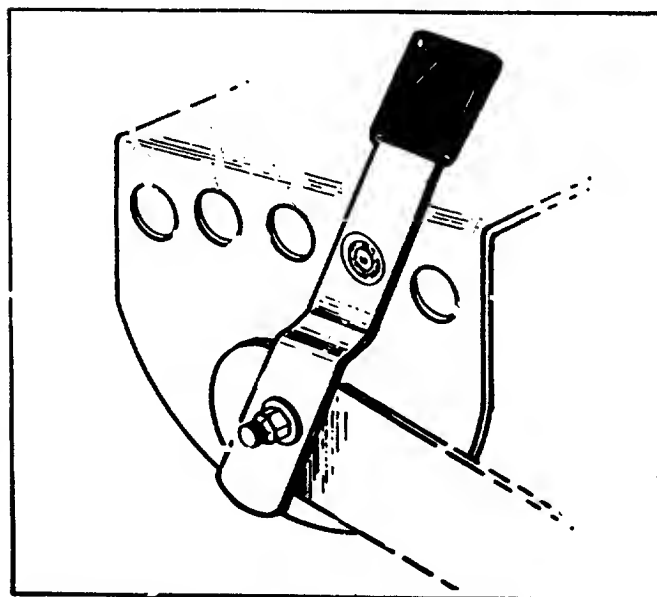

FIGURE 21. WHEEL HEIGHT ADJUSTER 34" DECK
j. **Cutting Height 34" Cut Deck.** Set the cutting height by setting both wheel height adjusters in the desired position and moving the lift lever all the way forward. See figure 21.
Step 7. Set the desired cutting height. See figures 21 and 22.